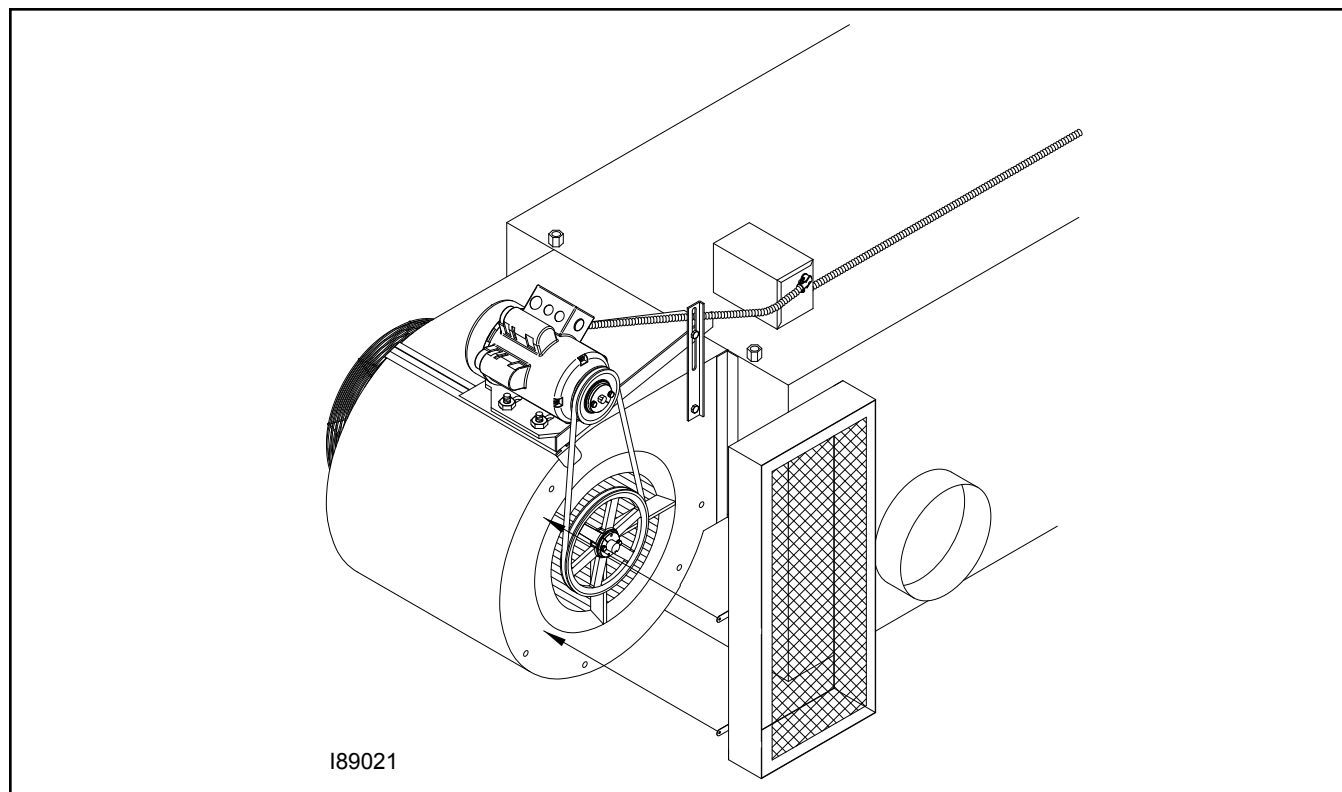
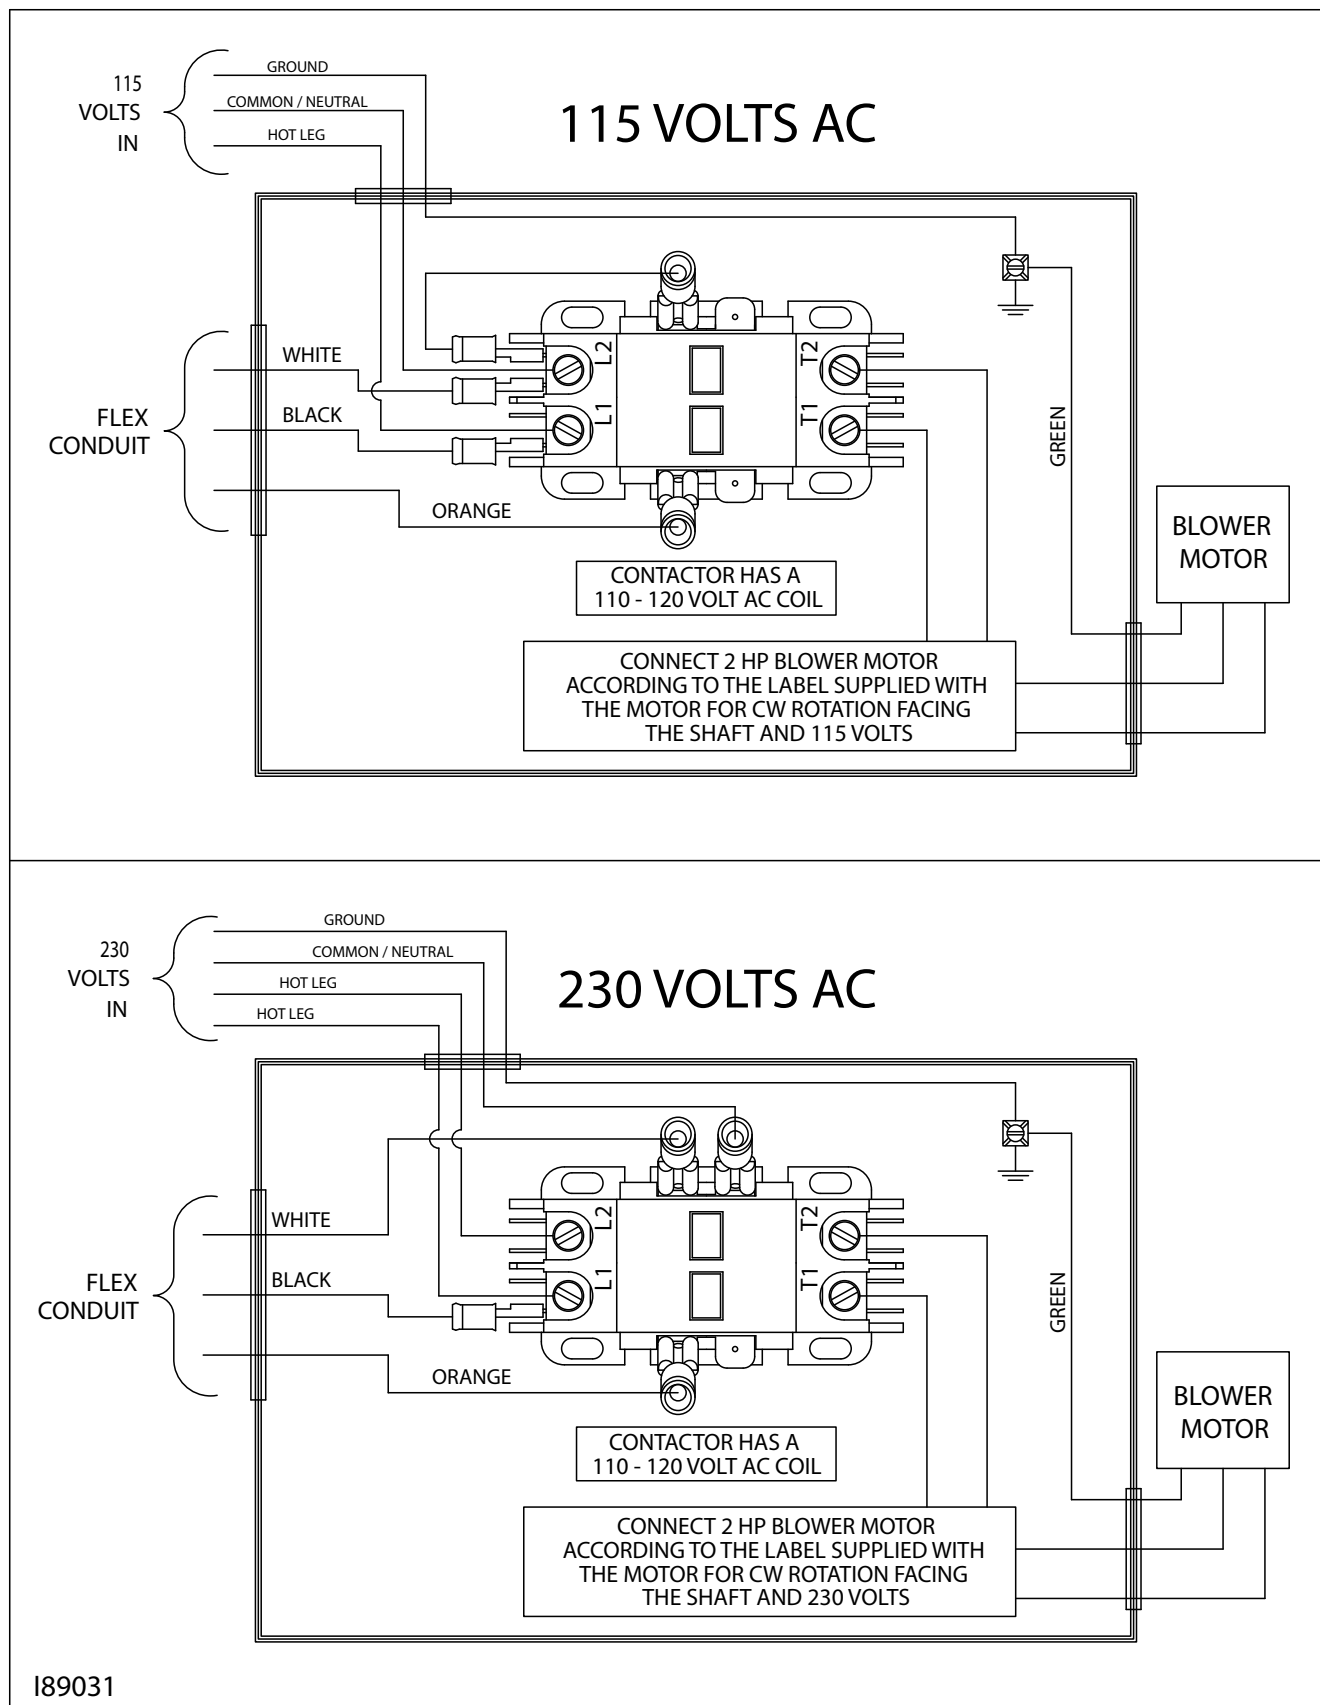

Figure 3G - Blower Installed on Furnace Cabinet (CB-3250)
Figure 3H - Detail of Blower Motor Wiring for CB-3250
2. Position the blower over the opening in the back of the furnace cabinet by sliding the blower into the mounting angle brackets. The top of the blower is slid over the lip on the back of the furnace. The mounting screws on top will go through the blower and anchor into the thicker lip protruding from the back of the furnace cabinet. Check for proper positioning by referring to Figure 3G.
3. Install the electrical conduit with the blower motor leads into the 4" x 6" rear junction box on top of the furnace cabinet as shown in Figure 3G. Refer to Figure 3H for the proper wiring diagram.
9. Tighten the belt (Refer to Figure 3G).